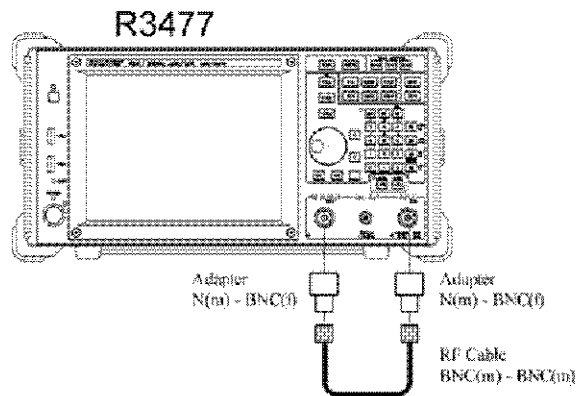

Figure 2-21 Connection when TG Level Cal is Executed
1. Connect the instrument as shown in Figure 2-21.
1. Connect the instruments as shown in Figure 2-21.